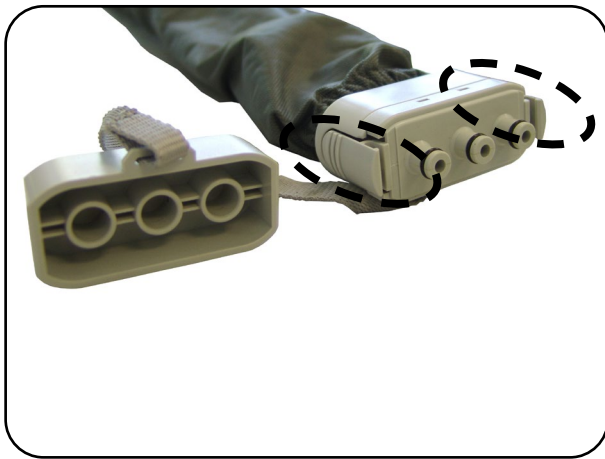
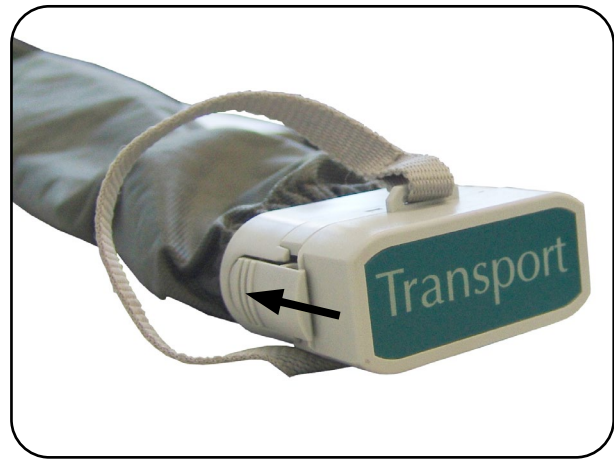

Fig. 8.7.01 – Connector plug exposed
Fig. 8.7.02 – Connector plug sealed
1. Disconnect the connector for the supply hoses from the pump unit by pressing the releasable lock (Fig. 8.7.01).
2. Immediately place the attached sealing cap on the connector, pushing it until it audibly engages (Fig. 8.7.01 and Fig. 8.7.02).
2. Disconnect the connector for the supply hoses from the pump unit by pressing the releasable lock (Fig. 8.7.01).
3. Immediately place the attached sealing cap on the connector, pushing it until it audibly engages (Fig. 8.7.01 and Fig. 8.7.02).